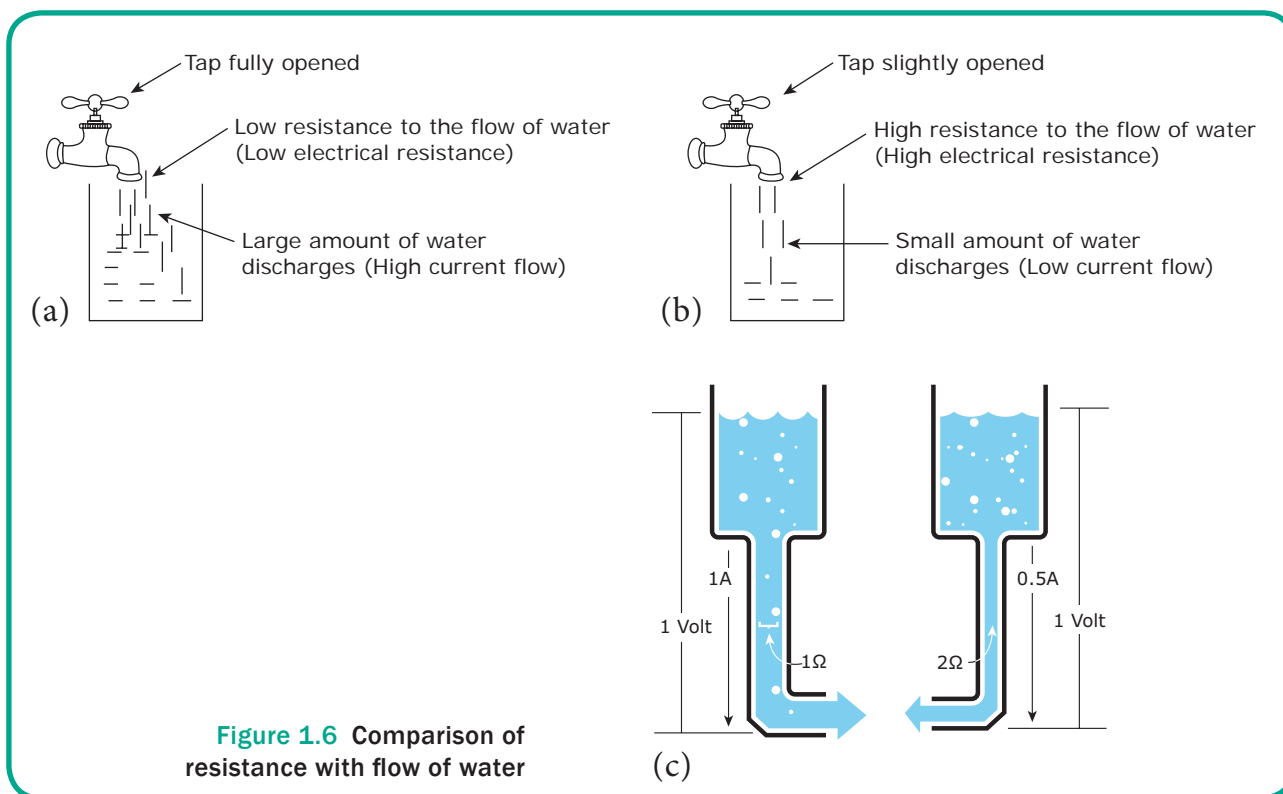

**Figure 1.5** Comparison of electric current with flow of water
*Likewise, if we connect an electrical load through proper conducting wires, Electrons will flow from higher density point to lower density point as shown in Figure 1.5. This is called Electric Current.*